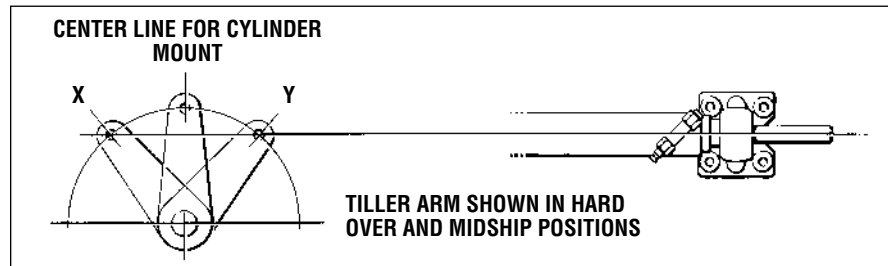

Figure 7.
1. To achieve MAXIMUM cylinder performance it is suggested that an imaginary line is drawn through the tiller arm hole at both hard over positions (see figure 7), this will create the “cylinder center line”. With the tiller arm at hard over positions, angle X and Y should be the same.